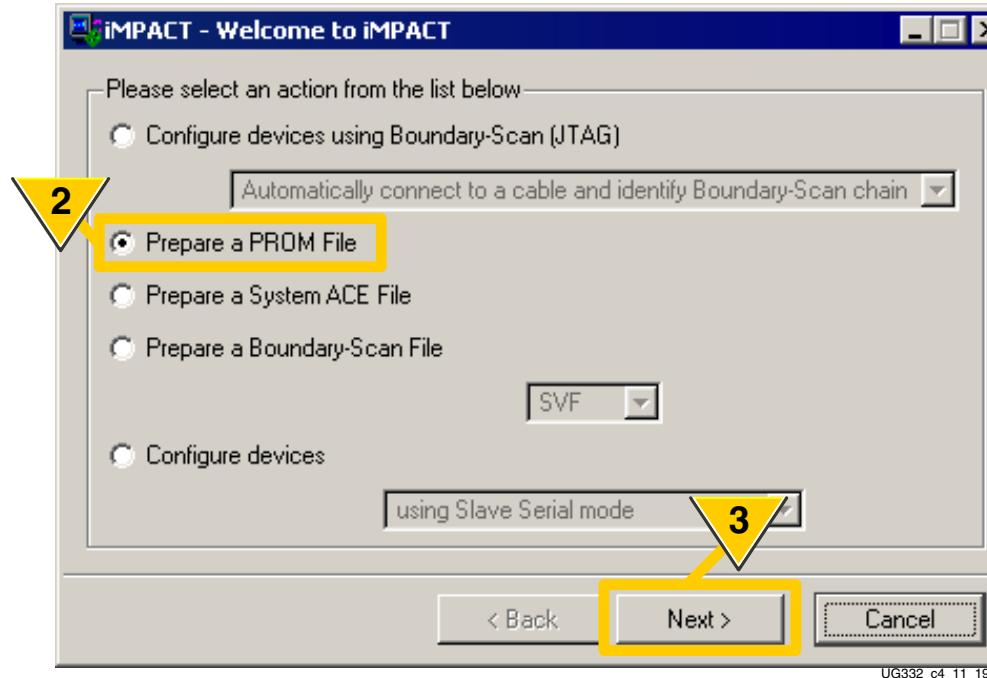

Figure 10-4: Prepare a PROM File
2. As shown in Figure 10-4, select **Prepare a PROM File**.